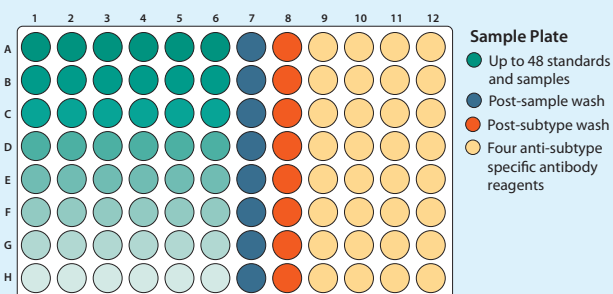
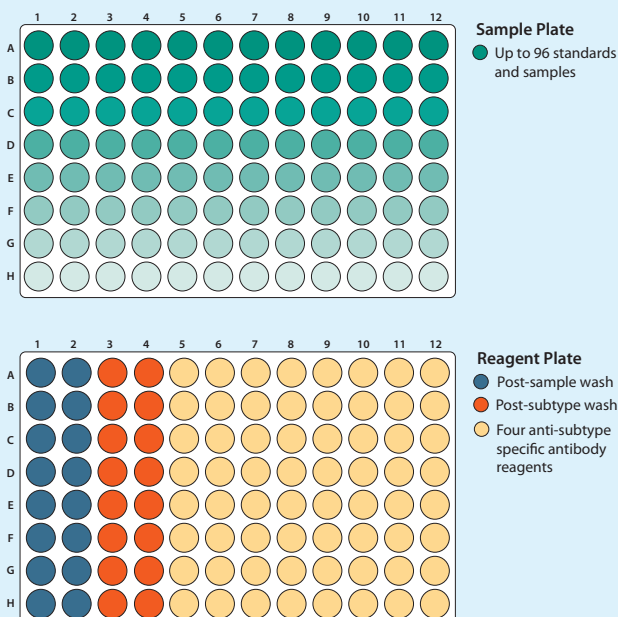

FIGURE 1: Octet QK/RED sample plate format.
FIGURE 2: Octet QK384/RED384 sample and reagent plate format.
Up to 48 samples can be analyzed in one assay on an Octet QK or Octet RED system and up to 96 samples in one assay using an Octet QK384 or Octet RED384 system. The assay requires 1 microplate when using an Octet QK or Octet RED system (Figure 1) or 2 plates running an Octet QK384 or Octet RED384 system (Figure 2).
- Pipet 200 μ L of each anti-subtype antibody reagent into a 96-well black flat-bottom plate (refer to Figure 1 for Octet QK/RED, Figure 2 for Octet QK384/RED384)